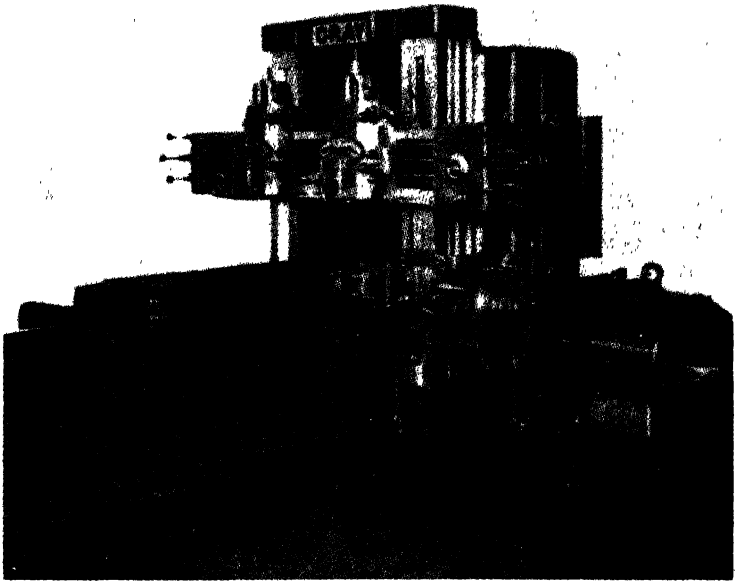

Fig. 1-5. A double-head planer. (*The G. A. Gray Company*)
*The Planer.* The planer (Fig. 1-5) is a machine tool used in the production of flat surfaces on pieces too large or too heavy or per-